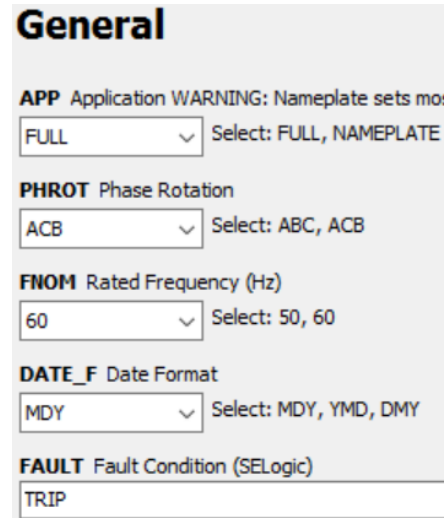

Figure 73: SEL-710 General Settings
- a. Under General settings (Figure 73), choose a Phase Rotation sequence (**PHROT**) of A**C**B. The frequency and phase rotation settings correspond to electrical properties of the utility. Replace the default Fault Condition (**FAULT**) contents with T**RI**P**.**